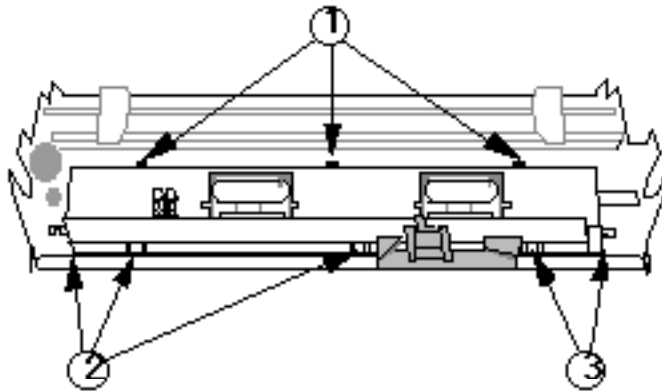

FIGURE 17
24. Remove the three screws (Figure 17, #1) that hold the paper guide in place.
25. Push the carrier to the left; then gently unhook each of the three tabs (Figure 17, #2) with a small flatbladescrewdriver . Push the carrier to the right; then gentlyunhook each of the remaining two tabs (Figure 17, #3) with a small flatblade screwdriver .